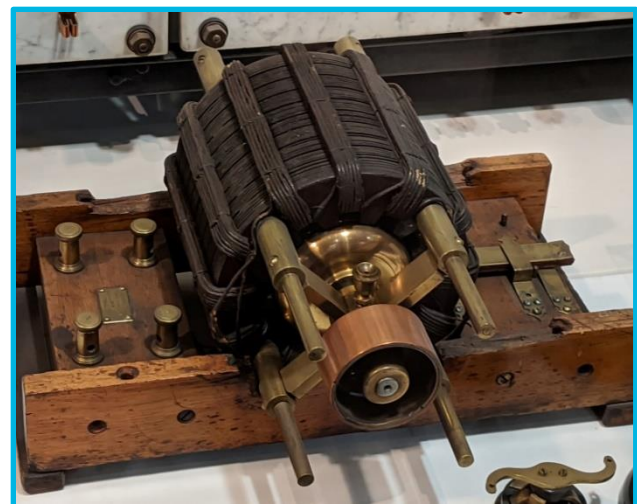
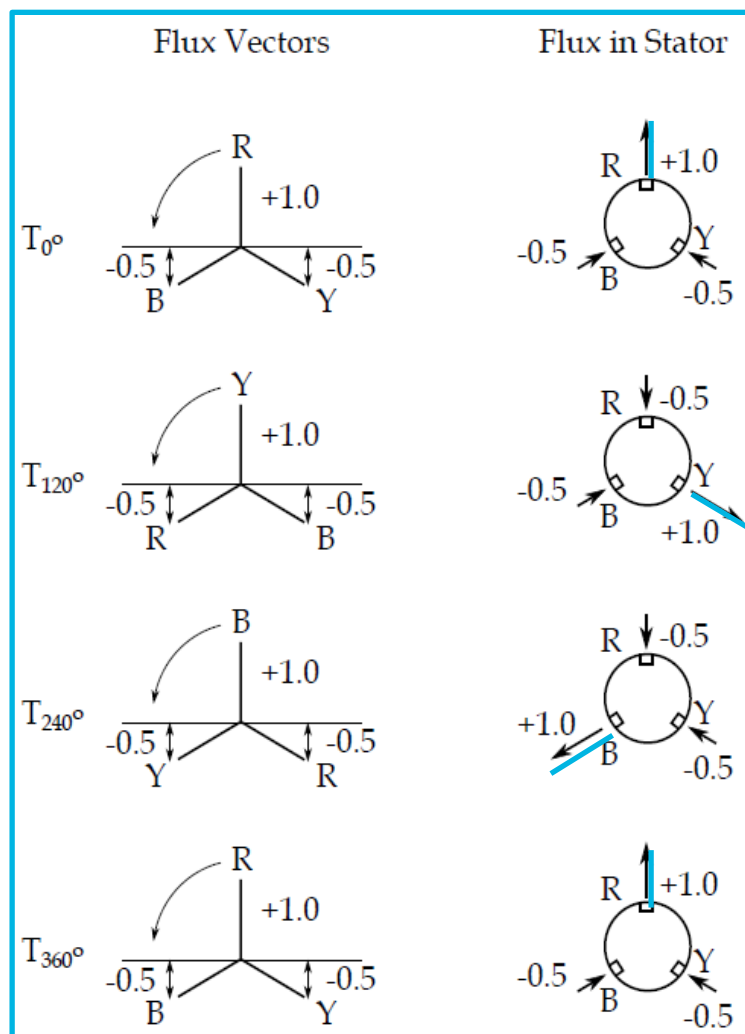
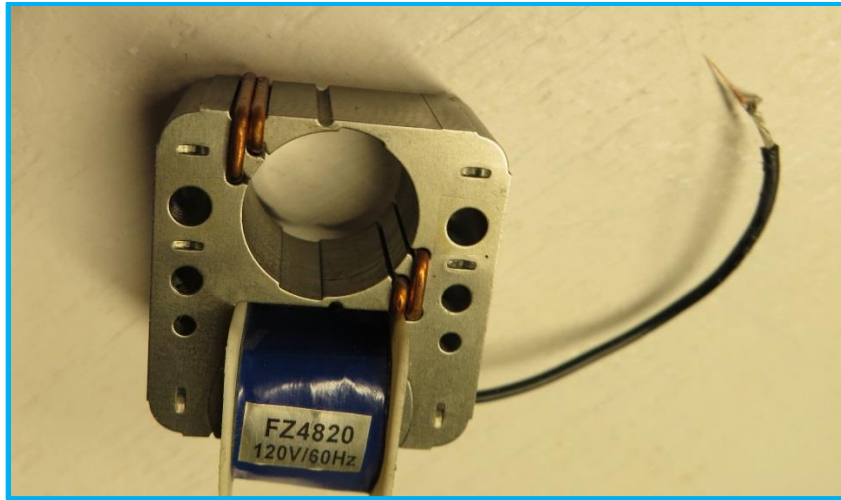

Fig. 2
Fig. 3
Fig. 8
The scientist generally credited with developing a better (AC) system was Nicola Tesla (1856-1943). In the early 1880's he became disenchanted with all the difficulties the industry was having with keeping commutators and brush gear clean and in good repair, that he applied himself to the development of what eventually became known as a wound-rotor induction motor. See Figure 2. But note that in this particular case, although the rotor is wound with wire, the ends of the wire are not brought out. The rotor winding is in fact one single continuous loop.
This was really very ingenious because, as you will see, there was no commutator at all. His early version, (which he patented and sold to George Westinghouse in 1888 for \$150,000, a huge sum in those days). An examination of Figure 2 will show several interesting features:
The device shown in Figure 2 is actually a replica in a museum in Belgrade, the original having been lost. Tesla later patented a 3-phase system, but never seems to have developed it. See Figure 3.
Refer to Figure 3 below. Here you will see a “Time Lapse” sequence of what happens, both outside and inside a three-phase motor frame. The rotor is excluded for clarity. In these diagrams the phases have been colored Red, Yellow and Blue, simply to coordinate with the hands-on demonstration at the end of this lesson. The magnetic flux in each phase is shown on the left-hand side. The diagram on the right hand side represents the cylindrical casing. Each of the three rectangles inside the casing represents one of the phase windings. This whole assembly is known as the stator, because it remains stationary. Note that these are also lettered R, Y & B, same as the phases of the power supply.
The students are encouraged to consider the four vector diagrams on the left hand side of Figure 3, overleaf. By inspection it will hopefully be evident that at all times, as the three vectors rotate in unison, they are always equally balanced – provided, of course, that their magnitudes are equal. In other words, if these conditions apply, the vector sum at the neutral point is always zero and no unbalanced current will flow in the neutral conductor. If the students have trouble with this concept, they should consult their math teacher.
From Figure 2 above, which demonstrates how a three-phase motor produces a rotating magnetic flux in the stator, it should be an easy step to realize that a single phase also requires a rotating magnetic field, at least to get it started. But a single phase current in the stator simply produces a flux which merely pulses but does not rotate. Fortunately this can be overcome with a little ingenuity. See Figure 8.
AC motors are generally very efficient, reaching figures between 95% and 97%, depending on size. The very small sizes, such as that shown in Figure 8 are probably much less efficient, but for intermittent use, efficiency is not important.